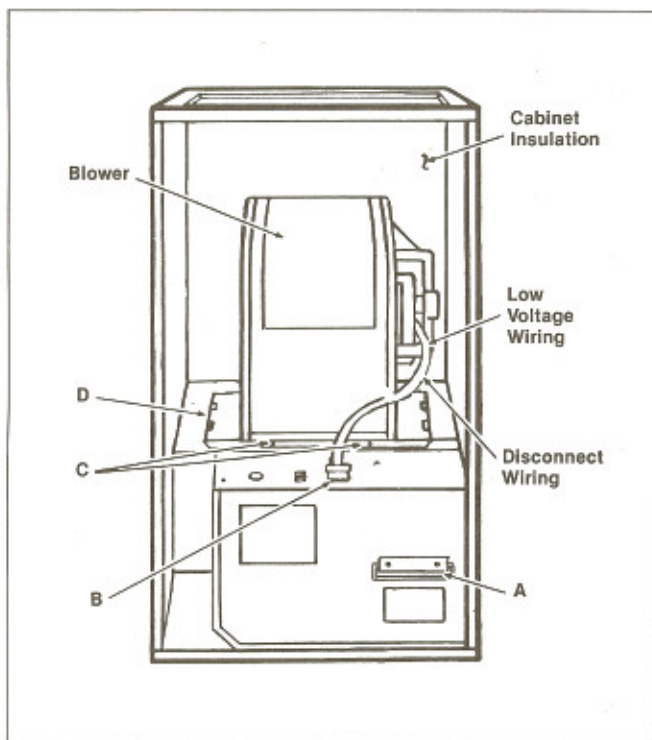

Figure 1. Furnace with the front panel removed.
2. Remove the furnace front door and pull out the furnace safety disconnect (A), from the furnace control panel, (See Figure 1).
3. Disconnect the motor plug (B) from the control panel receptacle.
4. Remove the two screws (C) at the front of the blower housing then slide the blower forward and remove it from the furnace.